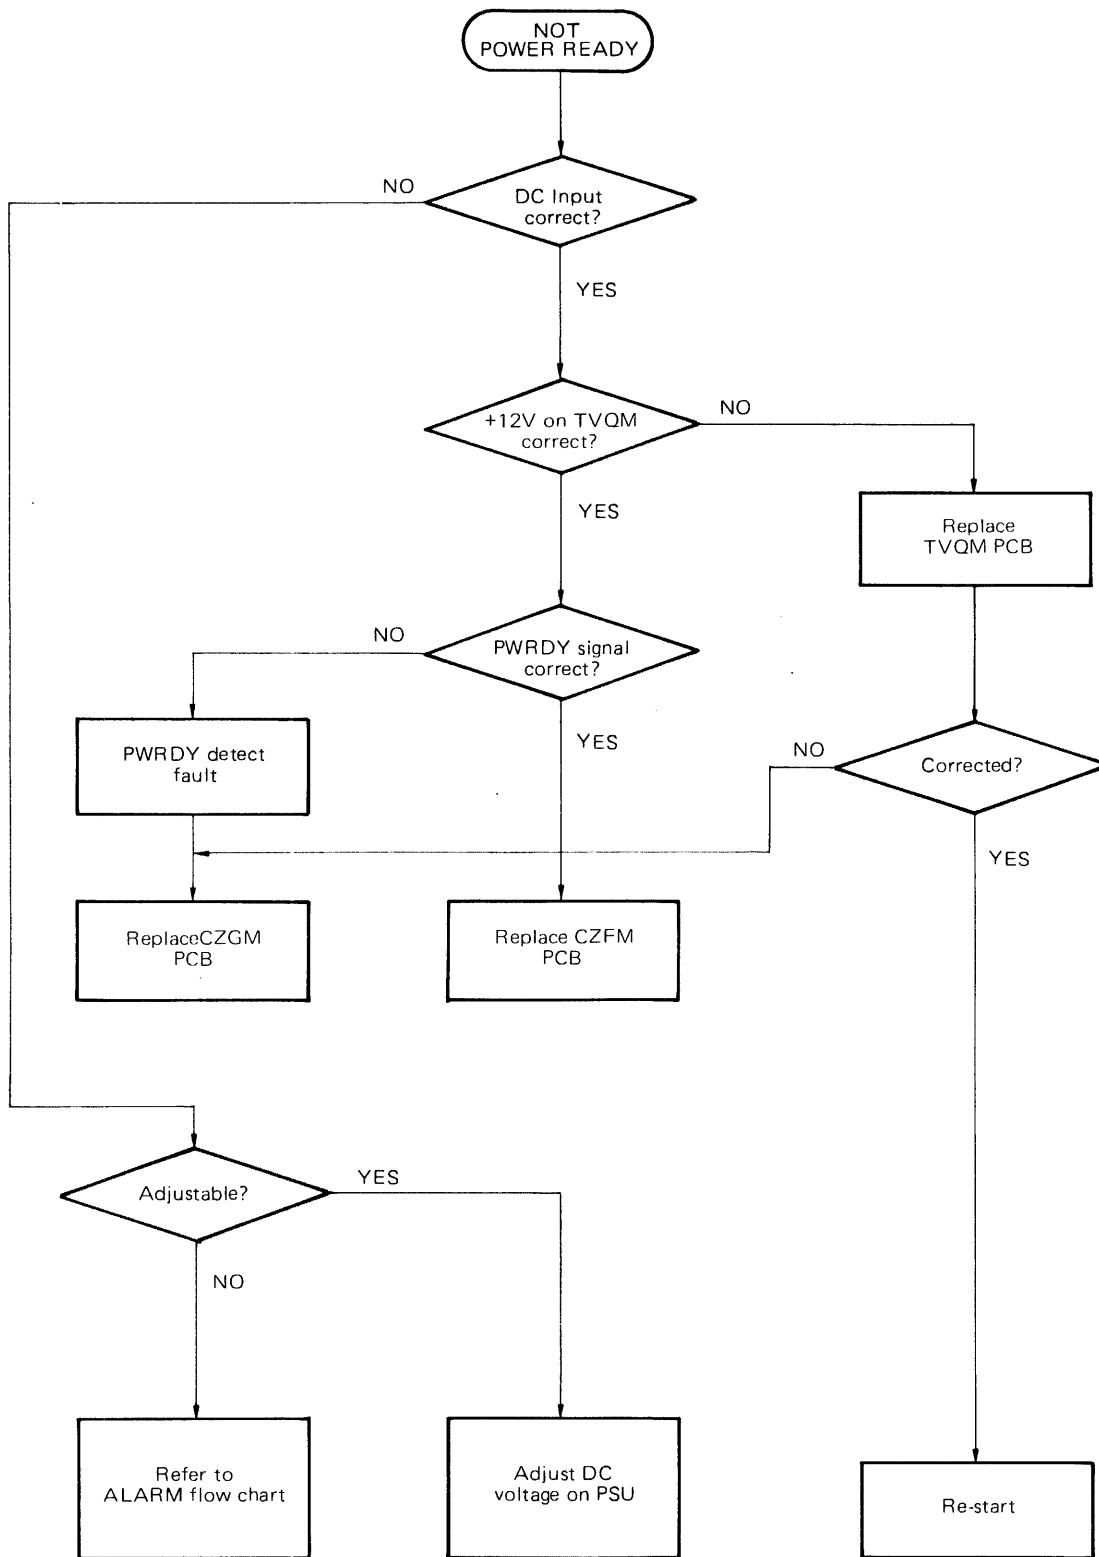

Figure 5-5-3 Not Power Ready Flow Chart
- Figure 5-5-3 Not Power Ready